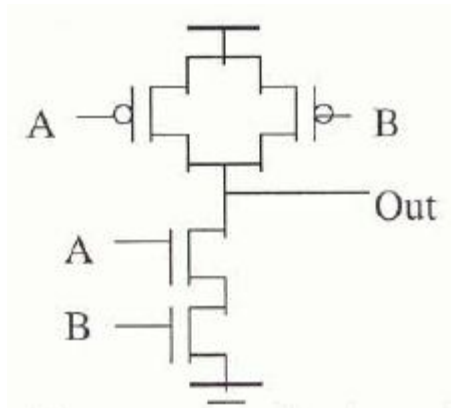

Fig.1
(c). Consider the static CMOS gate shown in Fig.1. Assume $V_{dd} = 2.5V$ and $V_{Tn} = 0.5V$. Will the threshold voltages of the two NMOS transistors be the same? If yes, why? If not, why not? (6)